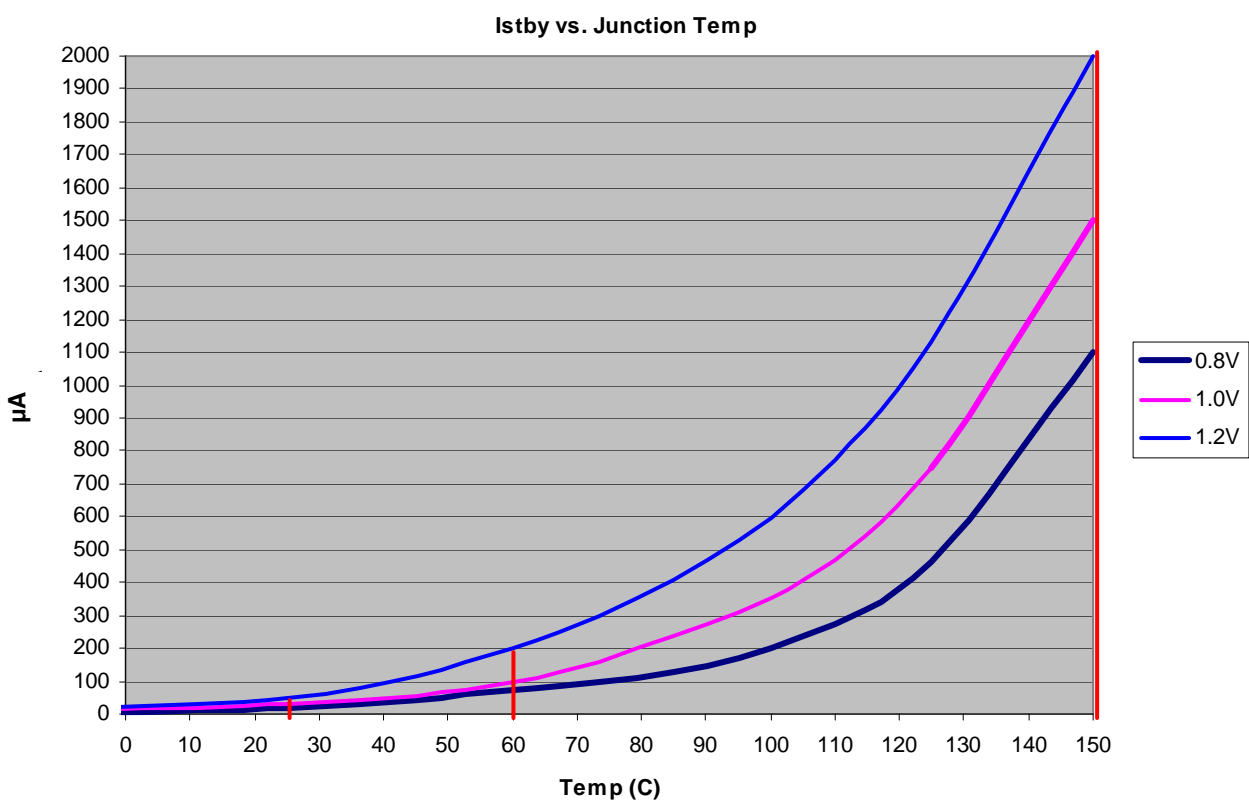

Figure 3. I_{STBY} Worst-case Specifications
- 7 Figure 3 shows an illustration of the I_{DD_STBY} values interpolated for these temperature values.
- 11 Figure 3 shows an illustration of the I_{DD_STBY} values interpolated for these temperature values.
Figure 3 shows an approximate interpolation of the I_{STBY} worst-case specification to estimate values at different voltages and temperatures. The vertical lines shown at 25 °C, 60 °C, and 150 °C in Figure 3 are the actual I_{DD_STBY} specifications (27d) listed in Table 9.